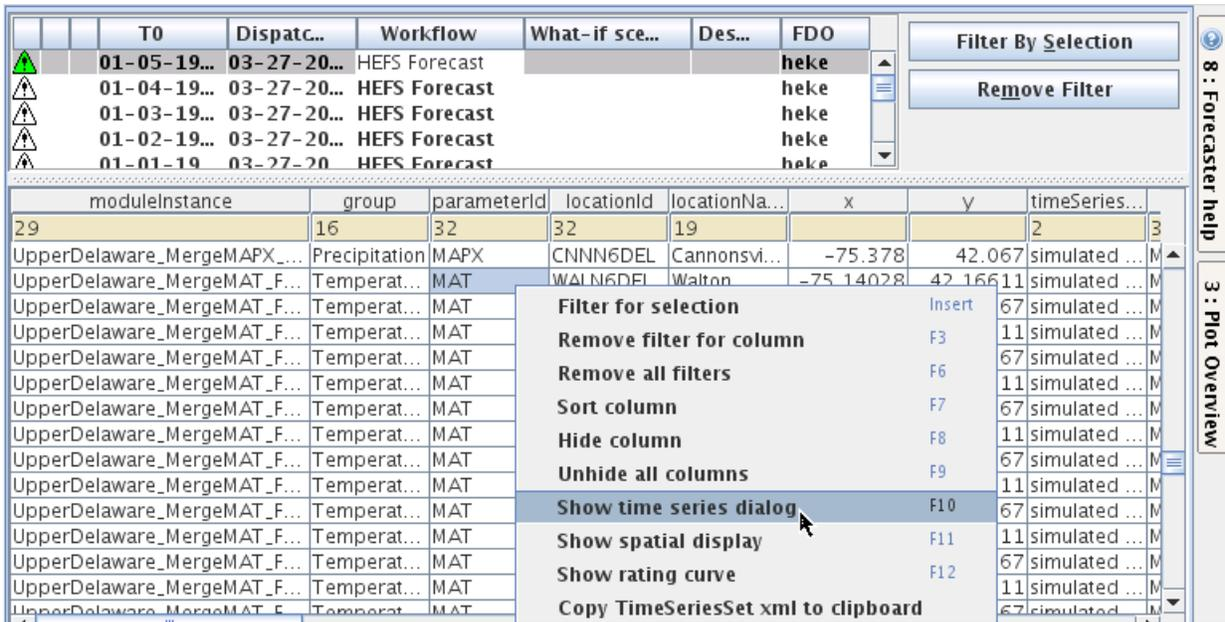
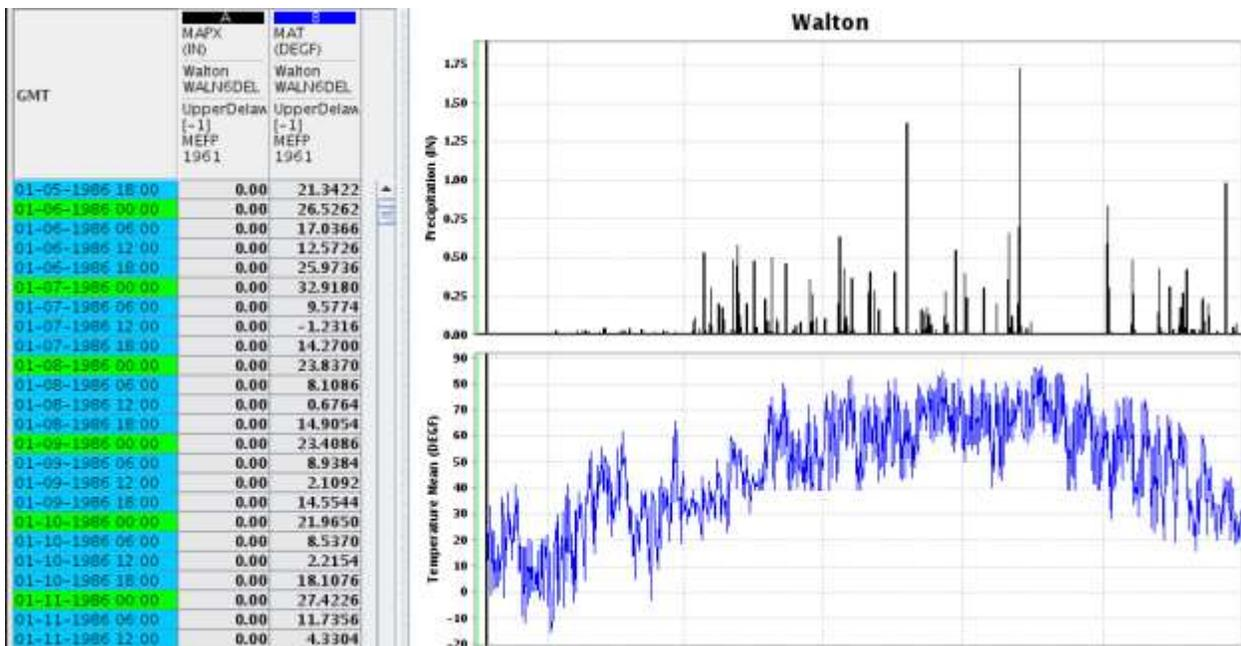

Figure 6a: Select time series to plot
Figure 6b. MEFP hindcasts for WALN6DEL (Ensemble ID: 1961)
- a) Select a T0 that you are interested in viewing (e.g., 01-05-1986 12:00:00; refer to Figure 6a) All of the time series corresponding to this T0 will show up.
- b) Select a module instance of interest (e.g., UpperDelaware_MergeMAPX_Forecast and UpperDelaware_MergeMAT_Forecast which produce MEFP hindcasts for the hydrologic processor); select the time series corresponding to these two module instances for ensemble ID 1961, as shown in Figure 6a.
- c) Once the time series of interest has been selected, right click and select Show time series dialog F10 (refer to Figure 6a). The selected time series will be plotted, as illustrated in Figure 6b.